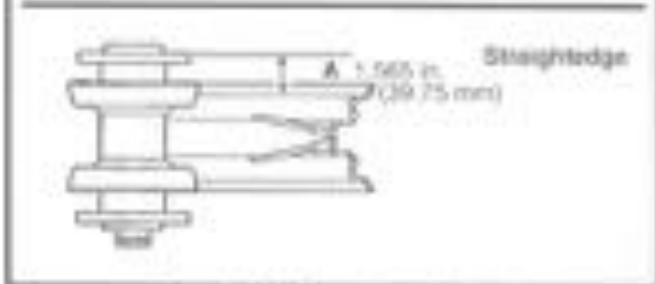
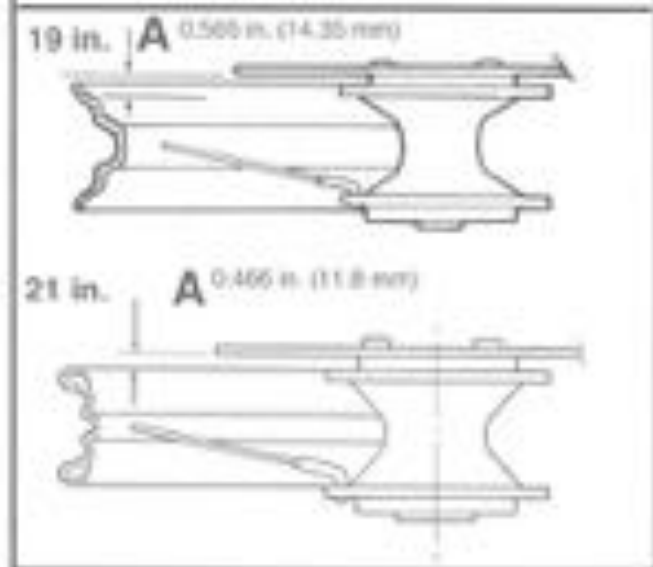

Figure 2-28. Centering 16-in. Hub
Figure 2-29. Centering 19-in and 21-in Hub
4. See Figure 2-28, and Figure 2-29. The hub must be centered sideways with the rim. Lay a straightedge across the hub brake disc flange and one of the marked spoke groups. Measure the distance from the straightedge to the rim as shown. If this dimension is not equal on both sides of the wheel, loosen and tighten the four spokes accordingly. Use SPOKE WRENCH (Part No. HD-94681-80).
See Figure 2-28, and Figure 2-29. Dimension "A" must be maintained to ensure centering of wheel on motorcycle.
- See Figure 2-28, and Figure 2-29. Check dimension A and retrue wheel if not within specifications.